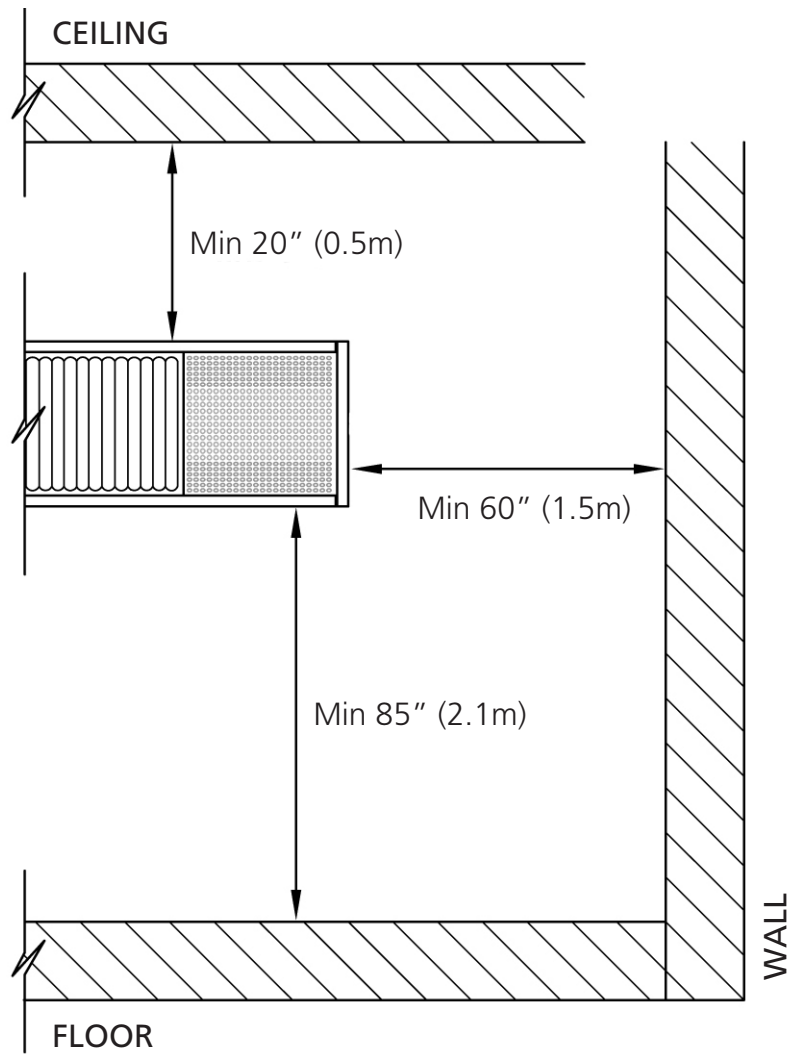

Figure 4.
- The minimum distance between the bottom edge of the appliance and the floor must be no less than 85" (2.1m) [refer figure 4, page 9].
- There must be a distance of at least 20" (0.5m) between the appliance and the ceiling or roof [refer figure 4, page 9].
- There must be a distance of at least 60" (1.5m) at each side between the appliance and the walls or the like [refer figure 4, page 9].